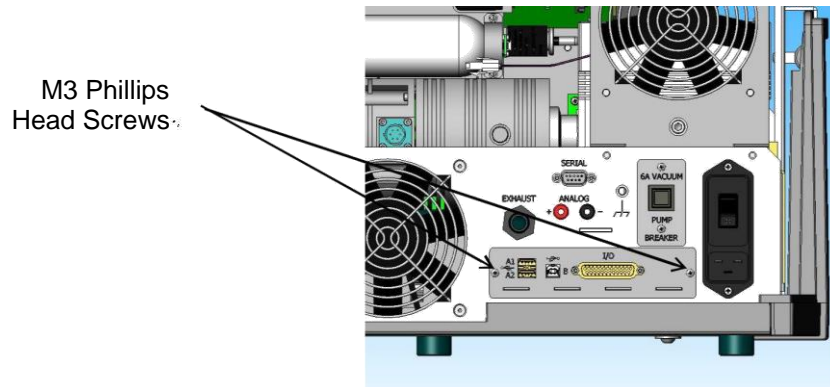

Figure 3: I/O Assembly with Screws
7. Remove the two I/O board Phillips head screws w/lock washers and remove the I/O board that is installed in the unit (“Figure 3: I/O Assembly with Screws”).
11. Reinstall the two I/O board Philips head screws w/lock washers (“Figure 3: I/O Assembly with Screws”).